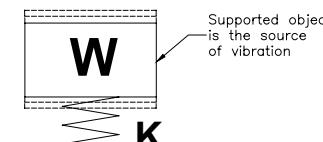

Figure 1
1. Force excitation: The isolator is used to protect the supporting structure from forces generated by the supported mass (see Figure 1). An example is the use of motor mounts in an automobile.